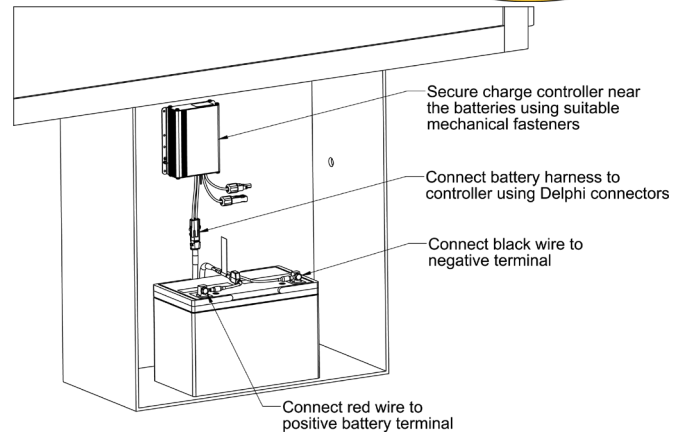

FIGURE 5
2. Use mechanical fasteners to secure the charge controller near the batteries. (Figure 5)
6. Attach the MC4 solar extension harness to the solar controller using the MC4 connectors. (Figure 5)